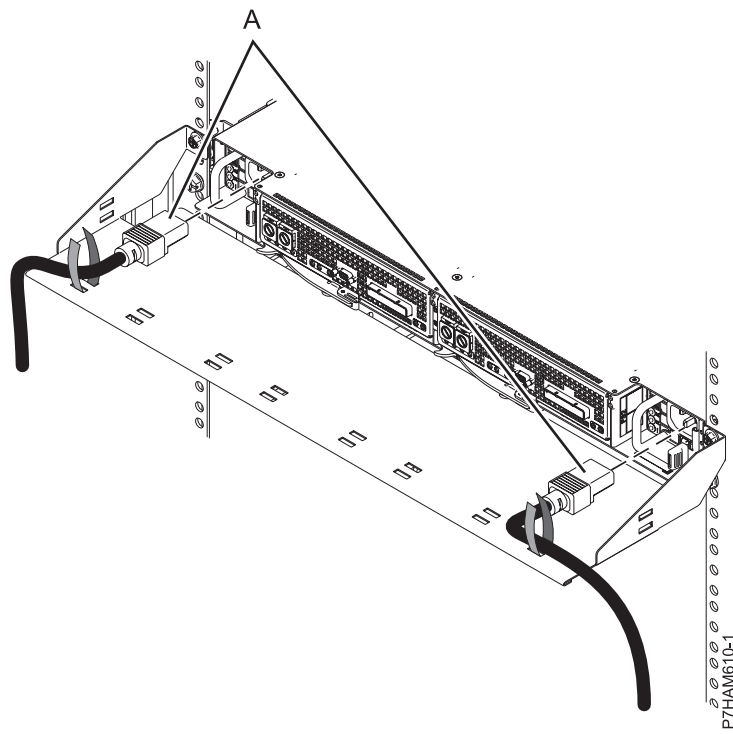

Figure 18. Installing the power cords
- h. At the rear of the rack, install the power cables (**A**), as shown in Figure 18. Use Velcro ties to secure the power cords to the cable management bracket.